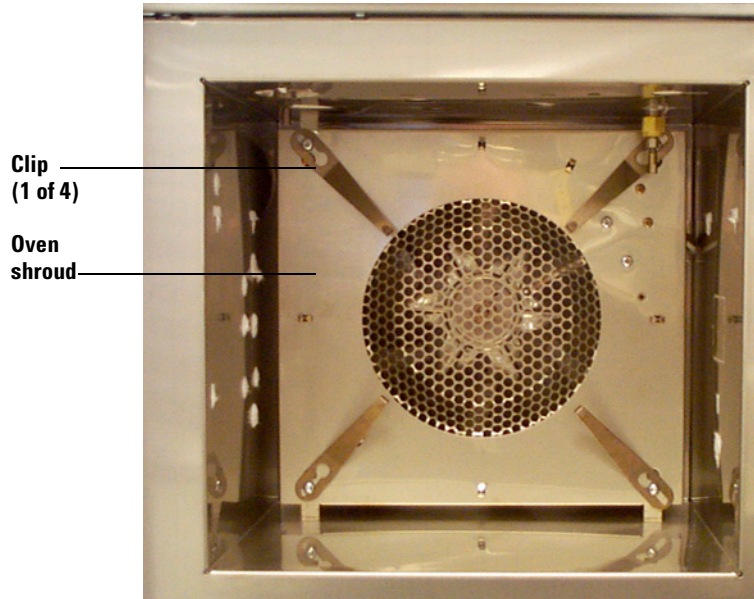

Figure 15 Oven clips
- 5 Install the four column clips on the oven shroud (Figure 15).